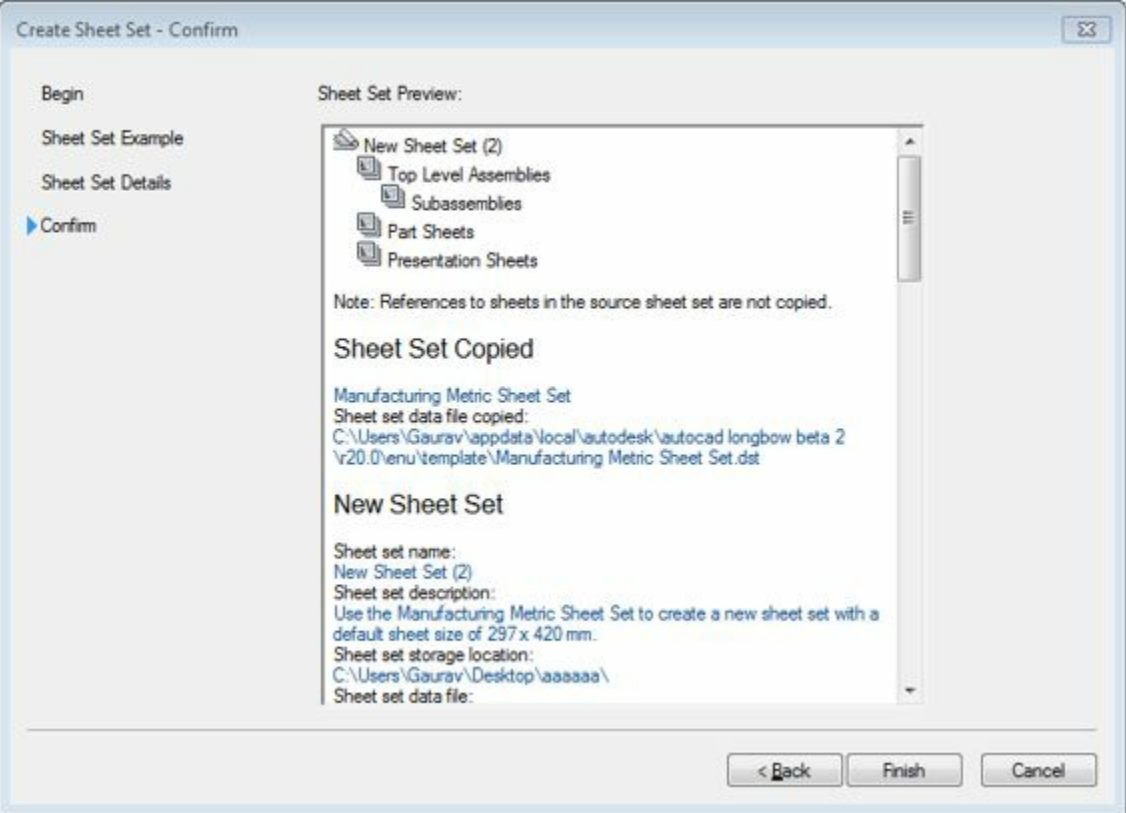

Figure-24. Confirm page of Create Sheet Set dialog box
- Click on the **Next** button from the page. The **Confirm** page will be displayed with the preview of all the properties set; refer to Figure-24.